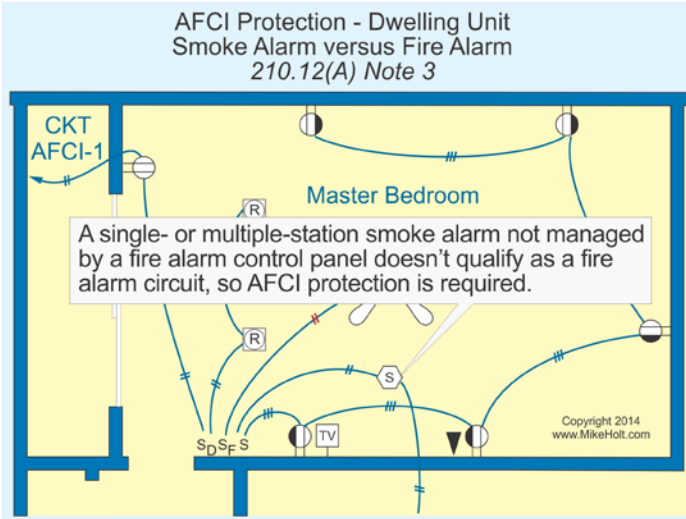

Figure 210-54
- Smoke alarms connected to a 15A or 20A circuit in a dwelling unit must be AFCI protected if the smoke alarm is located in one of the areas specified in 210.12(A). The exemption from AFCI protection for the “fire alarm circuit” contained in 760.41(B) and 760.121(B) doesn't apply to the single- or multiple-station smoke alarm circuit typically installed in dwelling unit bedroom areas. This is because a smoke alarm circuit isn't a fire alarm circuit as defined in NFPA 72, *National Fire Alarm Code*. Unlike single- or multiple-station smoke alarms, fire alarm systems are managed by a fire alarm control panel. Figure 210-54